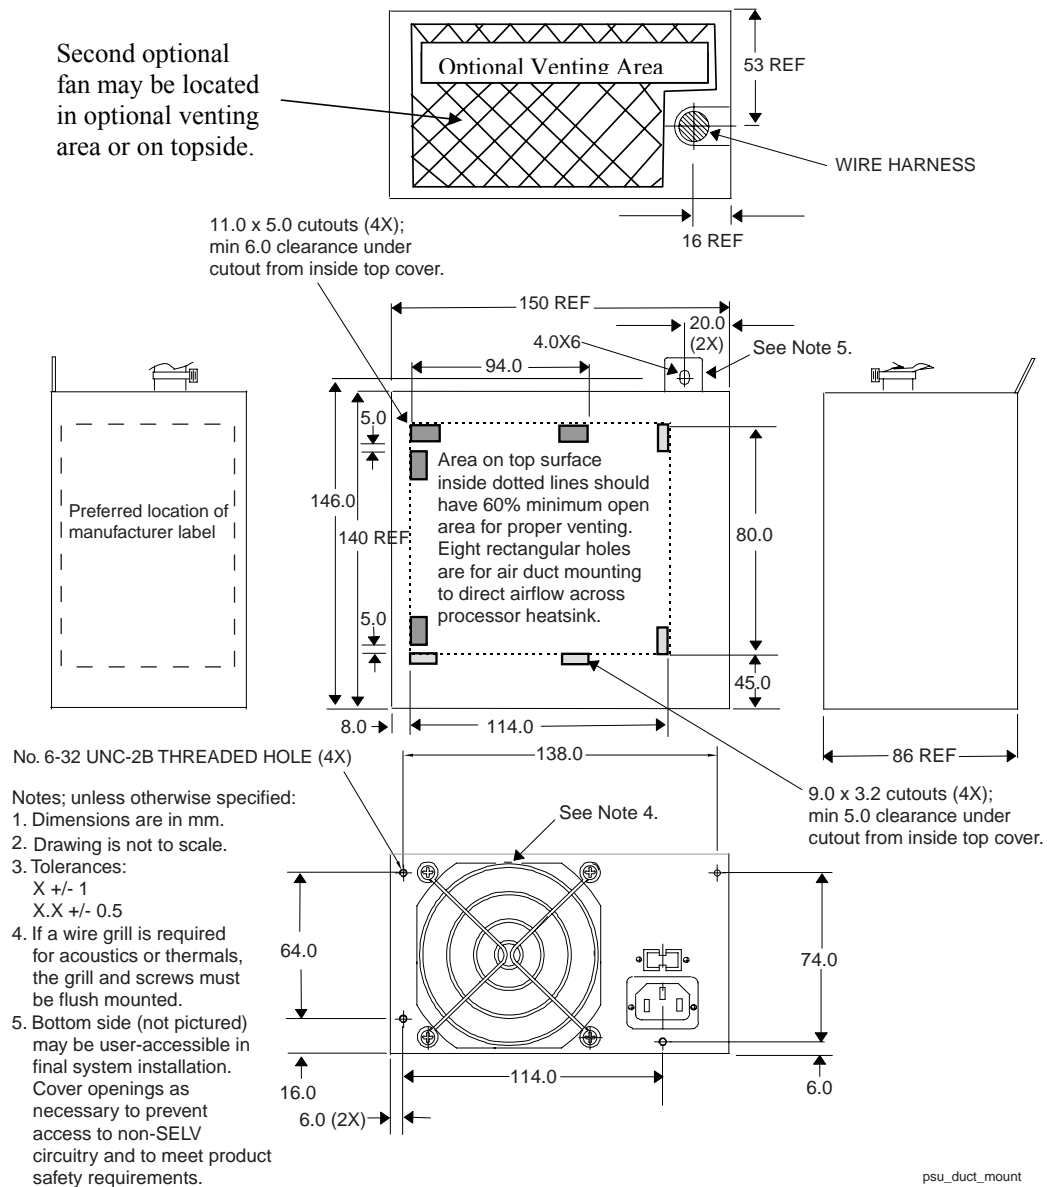

Figure 9. Power Supply Dimensions for Chassis That Require Top Venting
- The venting shown in Figure 9 allows designers to more directly couple the power supply airflow to system components such as the processor or motherboard core, potentially cooling all critical components with a single fan. Both the power supply fan location and direction may vary in this case. The trade-off is usually one of reduced system cost versus narrower design applicability.